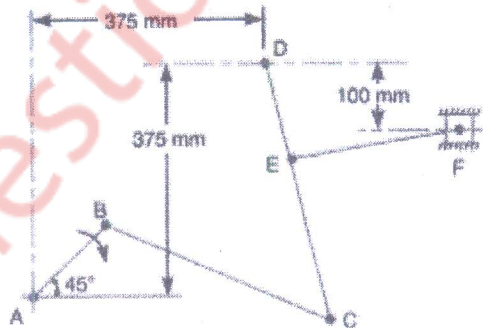

Figure 1
Q.2A. The mechanism, as shown in Fig. 1, has the dimensions of various links as follows : AB = DE = 150 mm ; BC = CD = 450 mm ; EF = 375 mm. The crank AB makes an angle of 45° with the horizontal and rotates about A in the clockwise direction at a uniform speed of 120 r.p.m. The lever DC oscillates about the fixed point D, which is connected to AB by the coupler BC. The block F moves in the horizontal guides, being driven by the link EF. Determine velocity of the block F and angular velocity of DC